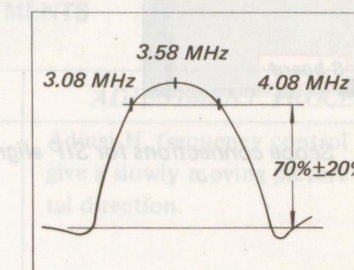

Fig. 4-19. Overall VIF/bandpass amplifier adjustment curve
16. Adjust the core of BPT-1 for maximum displacement between the marker (3.1 MHz - 3.3 MHz) and the baseline to obtain the response curve shown in Fig. 4-19.